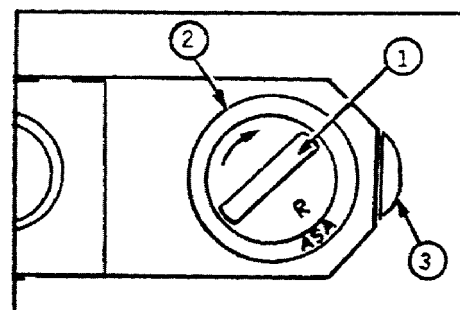

Figure 1-6. Crank for rewind, right side.
c. Crank for Rewind (fig 1-6) 1 - crank unfolds for ease of rewinding film into cassette. Film Reminder Dial 2 - may be used as a reminder of which kind of film is in the camera body. Camera Case Catch 3 - secures the removable camera back.